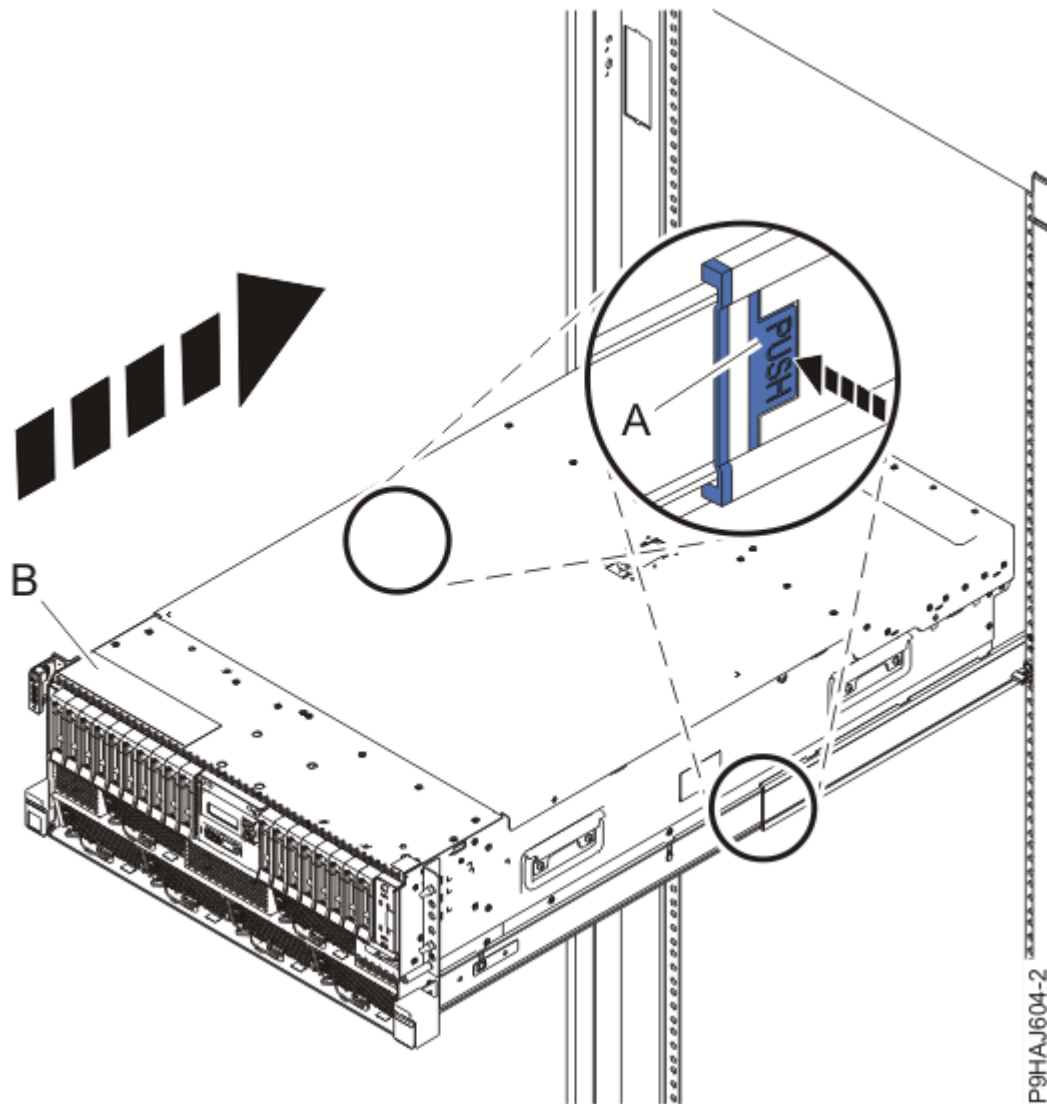

Figure 131. Placing the system into the operating position
3. For a rack-mounted system, unlock the blue rail safety latches **(A)** as shown in Figure 131 on page 146 by pushing them inward.